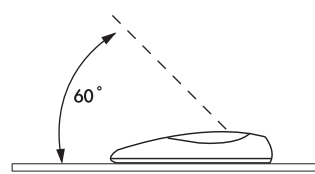

Figure 4
- 2.The sound source should not be below or higher than 60 degree above the level of the mounting surface for efficiency miking. (Figure 4)